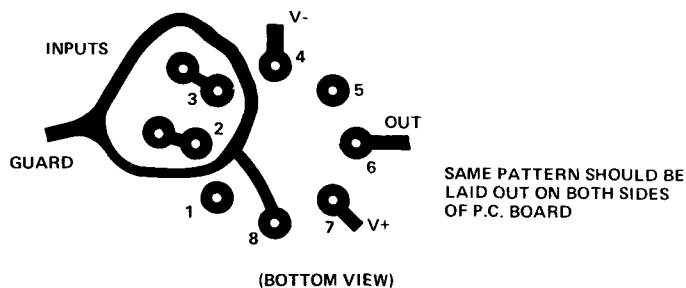
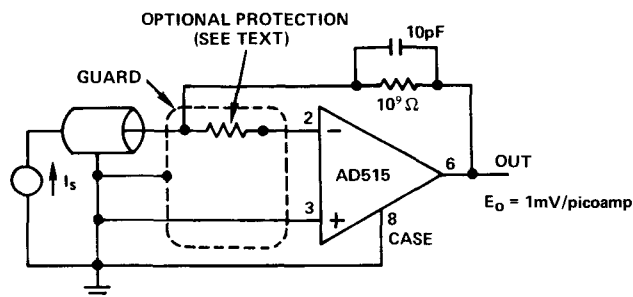

Figure 1. Board Layout for Guarding Inputs with Guarded TO-99 Package
Figure 2. Picoampere Current-to-Voltage Converter Inverting Configuration
2. The use of guarding techniques is essential to realizing the capability of the ultra-low input currents of the AD515. Guarding is achieved by applying a low impedance bootstrap potential to the outside of the insulation material surrounding the high impedance signal line. This bootstrap potential is held at the same level as that of the high impedance line; therefore, there is no voltage drop across the insulation, and hence, no leakage. The guard will also act as a shield to reduce noise pickup and serves an additional function of reducing the effective capacitance to the input line. The case of the AD515 is brought out separately to pin 8 so that the case can also be connected to the guard potential. This technique virtually eliminates potential leakage paths across the package insulation, provides a noise shield for the sensitive circuitry, and reduces common-mode input capacitance to about 0.2pF. Figure 1 shows a proper printed circuit board layout for input guarding and connecting the case guard. Figures 2 and 3 show guarding connections for typical inverting and non-inverting applications. If pin 8 is not used for guarding, it should be connected to ground or a power supply to reduce noise.
3. Printed circuit board layout and construction is critical for achieving the ultimate in low leakage performance that the AD515 can deliver. The best performance will be realized by using a teflon IC socket for the AD515; but at least a teflon stand-off should be used for the high-impedance lead. If this is not feasible, the input guarding scheme shown in Figure 1 will minimize leakage as much as possible; the guard ring should be applied to both sides of the board. The guard ring is connected to a low impedance potential at the same level as the inputs. High impedance signal lines should not be extended for any unnecessary length on a printed circuit; to minimize noise and leakage, they must be carried in rigid, shielded cables.
Many instrumentation situations, such as flame detectors in gas chromatographs, involve measurement of low level currents from high-voltage sources. In such applications, a sensor fault condition may apply a very high potential to the input of the current-to-voltage converting amplifier. This possibility necessitates some form of input protection. Many electrometer type devices, especially CMOS designs, can require elaborate zener-protection schemes which often compromise overall performance. The AD515 requires input protection only if the source is not current-limited, and as such is similar to many JFET-input designs. The failure mode would be overheating from excess current rather than voltage breakdown. If the source is not current-limited, all that is required is a resistor in series with the affected input terminal so that the maximum overload current is 0.5mA (for example, 200k Ω for a 100 volt overload). This simple scheme will cause no significant reduction in performance and give complete overload protection. Figures 2 and 3 show proper connections.
There are two ways to circumvent this problem. For inverting signals or low-level current measurements, the signal is carried on the line connected to the inverting input and shielded (guarded) by the ground line as shown in Figure 2. Since the signal is always at virtual ground, no voltage change is required and no capacitances are charged. In many circumstances, this will de-stabilize the circuit; if so, capacitance from output to inverting input will stabilize the circuit.